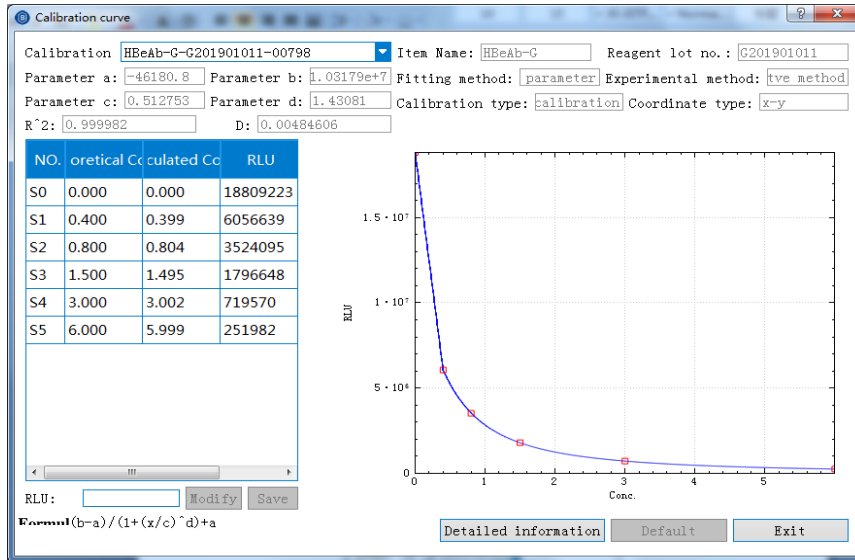
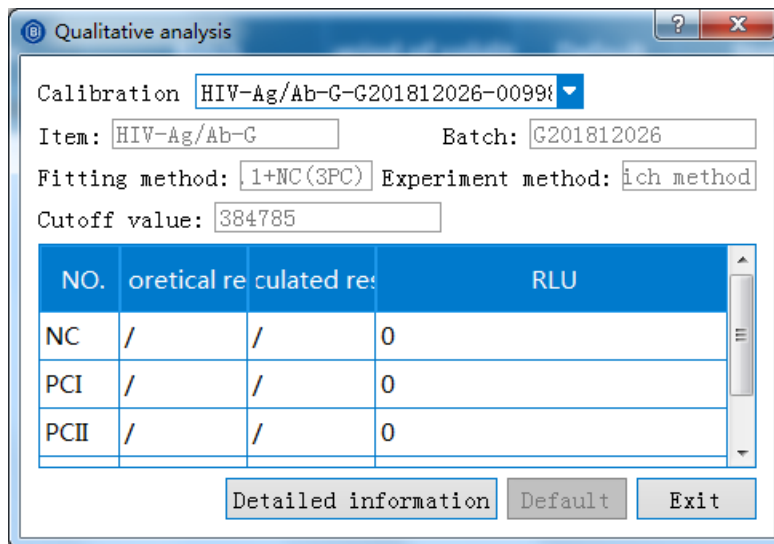

Figure 8.5.15 Calibration curve (Quantitative)
Figure 8.5.16 Qualitative analysis
- Click **Examine**. The calibration curve interface will pop up as shown in Figure 8. 5.15 or Figure 8.5.16:
- Detailed information of the calibration curve can be viewed as shown in Figure 8.5.15, and the RLU of the six points can be modified.
- Click **OK**, then click **Save** in the interface of Figure 8.5.15. The RLU is successfully modified.
2. Click **Default** in the interfaces as shown in Figure 8.5.15 calibration curve (quantitative) or Figure 8.5.16 Qualitative analysis, the default calibration curve column will show **Yes** and the setting of default calibration curve is completed.